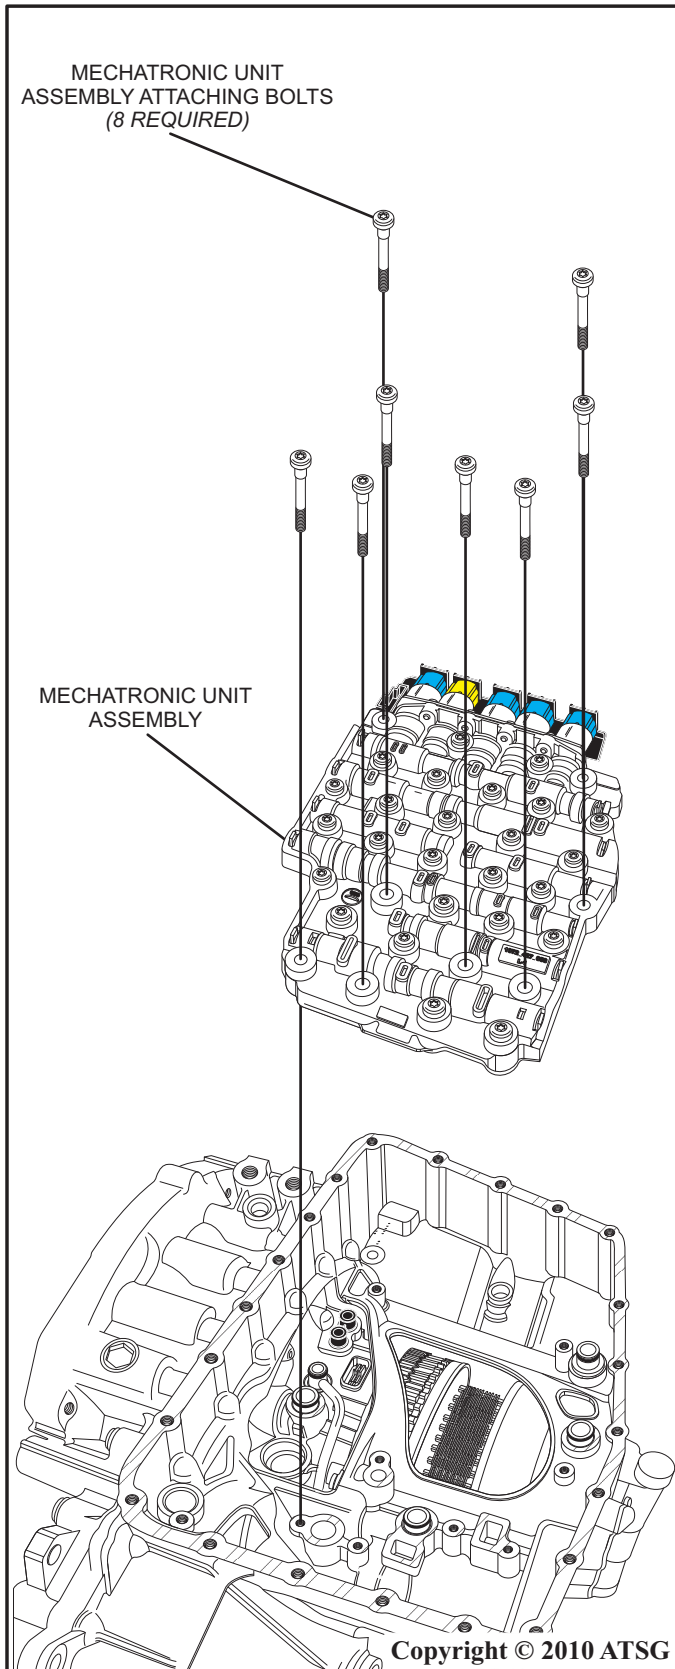

Figure 27
68. Install the mechatronic unit assembly onto the transaxle case as shown in figure 27. Use care to not cut the o-rings on the feed tubes as the mechatronic unit assembly is placed down.
69. Install the mechatronic unit assembly attaching bolts (8 required) as shown in figure 27.